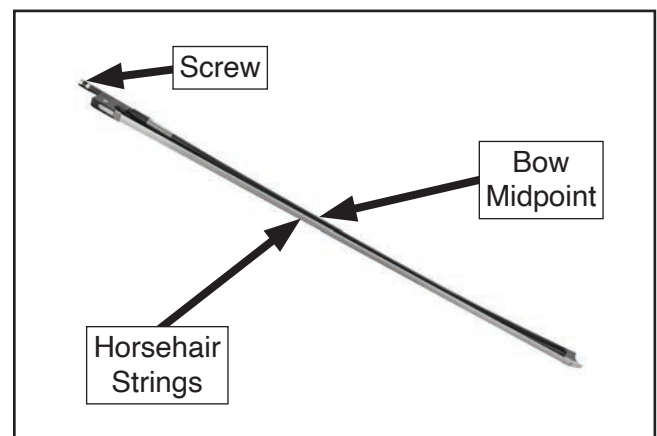

Figure 27. Bow components.
1. Tighten screw at base of bow to tension horsehair strings (see **Figure 27**).